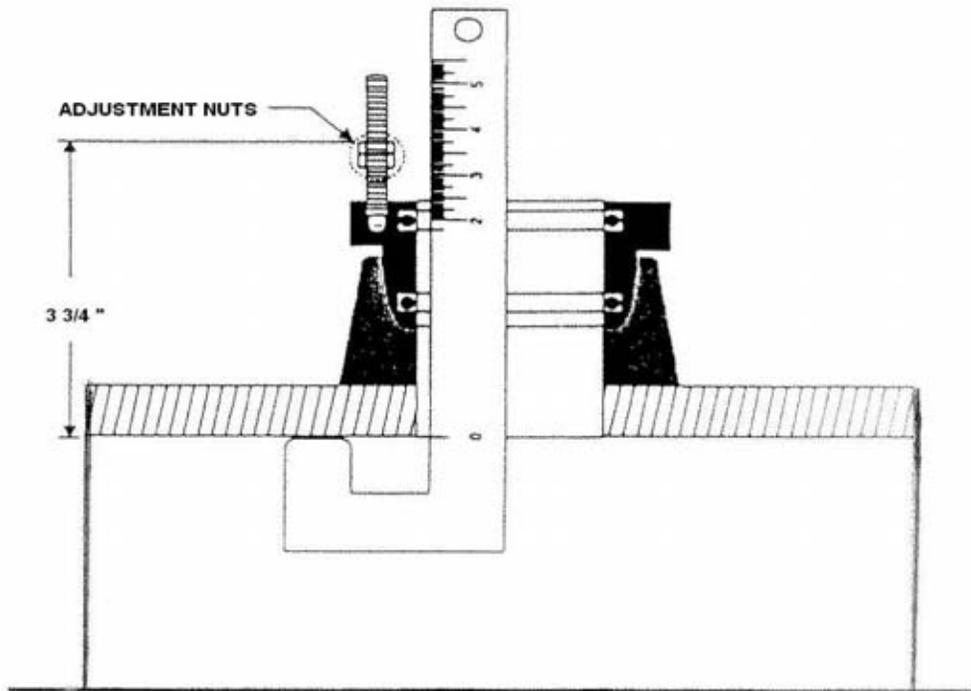

Figure 2
- Insert the depth gauge into the mounting adaptor and set it against the inside wall of the pipe (as shown in Figure 2).